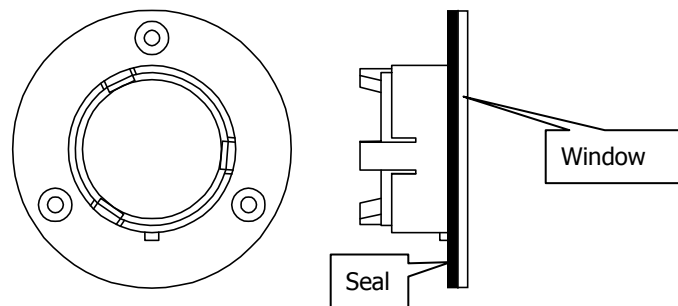

Figure 3 Seal fitted to window
5. Ensure the seal is fitted to the window and is correctly seated (Figure 3).